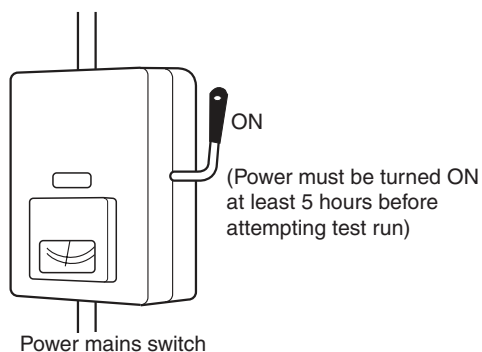

Fig. 6-1
- (1) All loose matter is removed from the cabinet especially steel filings, bits of wire, and clips.
- (2) The control wiring is correctly connected and all electrical connections are tight.
- (3) The protective spacers for the compressor used for transportation have been removed. If not, remove them now.
- (4) The transportation pads for the indoor fan have been removed. If not, remove them now.
- (5) The power has been supplied to the unit for at least 5 hours before starting the compressor. The bottom of the compressor should be warm to the touch and the crankcase heater around the feet of the compressor should be hot to the touch. (Fig. 6-1)